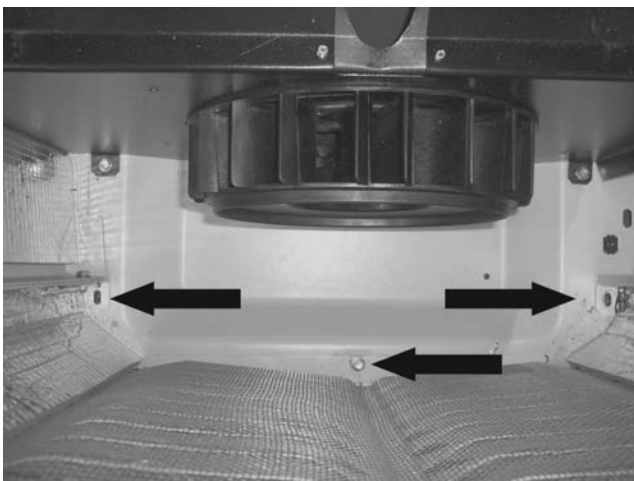

Figure 189.
6. **Remove Left-side enclosure:** Using a 10mm ratchet wrench remove the horizontal 10mm bolt that connects the side panel to the back panel. Using a 10mm socket, remove three bolts from the base of the enclosure. See Figure 189. Using a 10mm socket and wrench remove the top hinge bolt and loosen the bottom bolt. See Figure 190. Holding the roof, remove the bottom hinge bolt, remove the side panel by sliding it forward then re-install the hinge bolt.